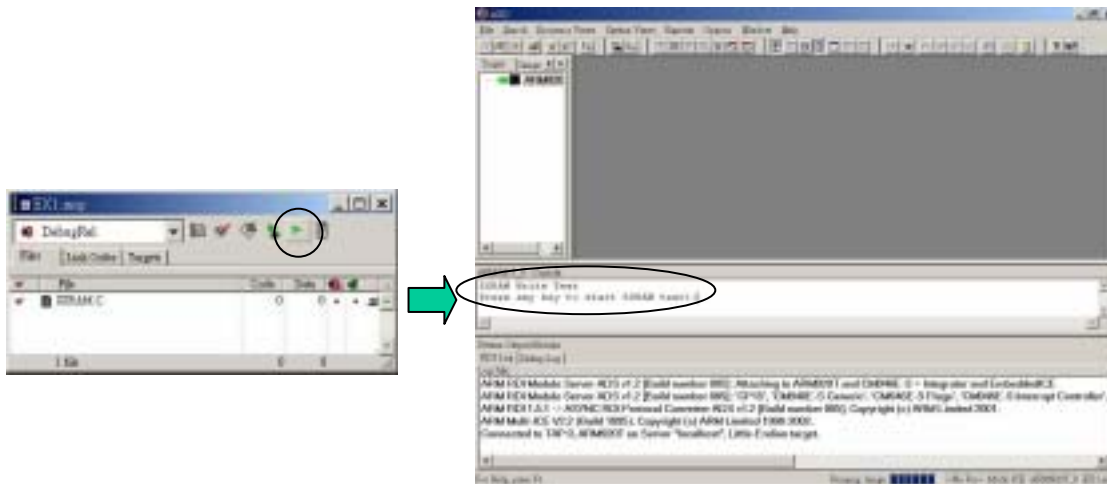

Figure 6 Run the project
- (1) The CodeWarrior IDE calls AXD debugger to load and execute the image (Figure 6).